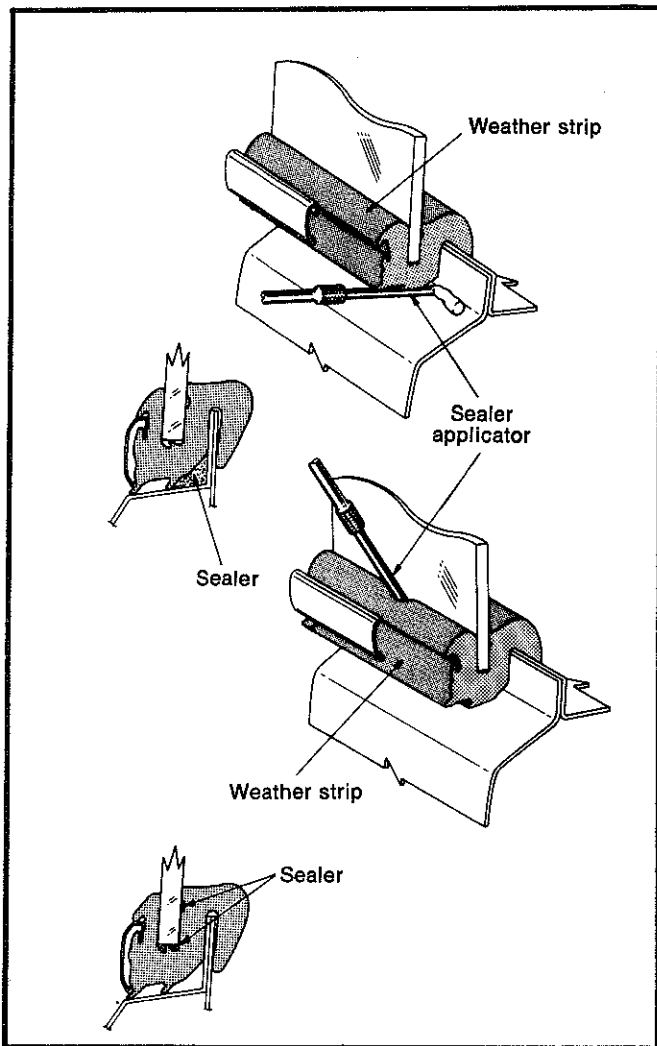

Fig. 18—Applying sealer
(8) Apply a butyl type sealant between the weather strip and body, and the weather strip and glass as shown in Fig. 18.
(9) Clean off all excess sealant and thoroughly clean window.